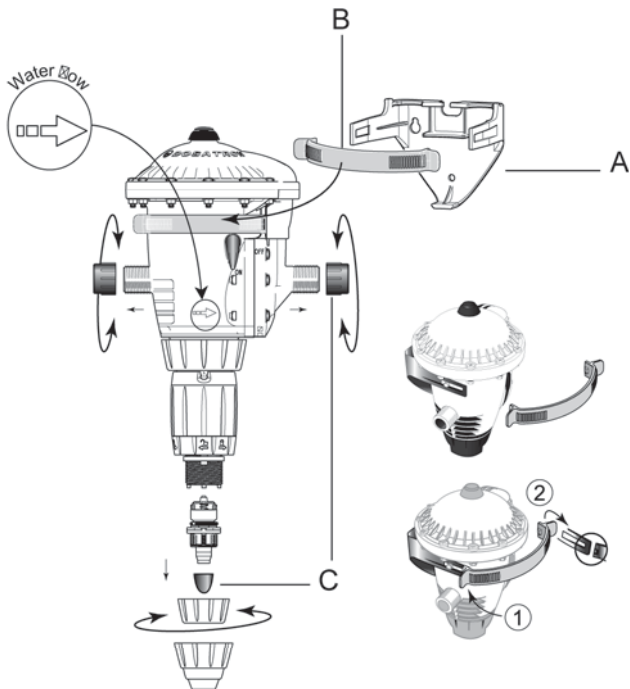

Fig. 1
- a mounting bracket (**Fig. 1-A**) and a strap (**Fig. 1-B**),
Remove the plastic caps (**Fig. 1-C**) which block the inlet and outlet of your DOSATRON before connecting to the water supply.